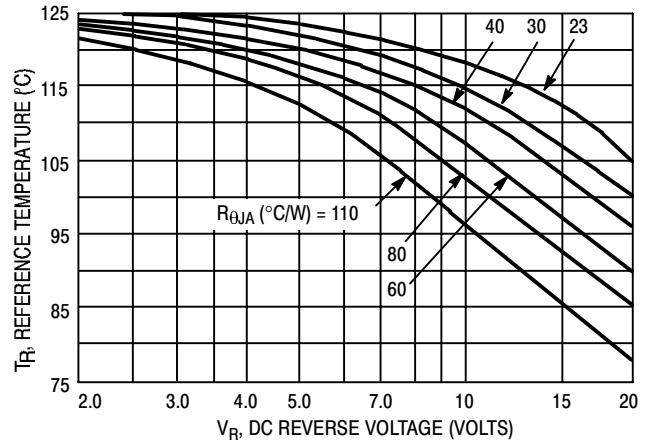

Figure 1. Maximum Reference Temperature 1N5817
Taped Component Dimensions - Figure 1
Figures 1, 2, and 3 permit easier use of equation (1) by taking reverse power dissipation and thermal runaway into consideration. The figures solve for a reference temperature as determined by equation (2).
Inspection of equations (2) and (3) reveals that T_R is the ambient temperature at which thermal runaway occurs or where $T_J = 125^\circ\text{C}$, when forward power is zero. The transition from one boundary condition to the other is evident on the curves of Figures 1, 2, and 3 as a difference in the rate of change of the slope in the vicinity of 115°C . The data of Figures 1, 2, and 3 is based upon dc conditions. For use in common rectifier circuits, Table 1 indicates suggested factors for an equivalent dc voltage to use for conservative design, that is: